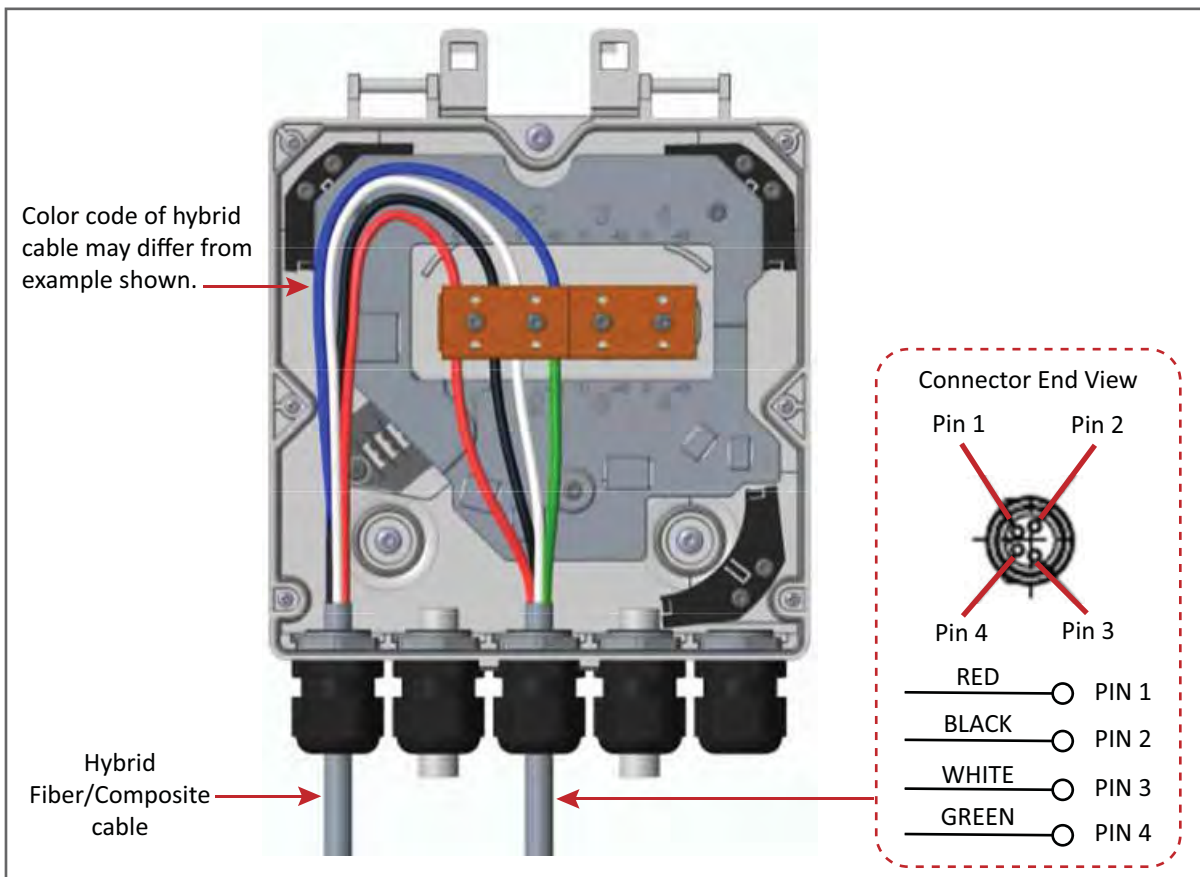

Figure 19. Wiring a Hybrid Fiber Splice Box for 4-Wire Power with LPS
- 1 Refer to Table 10 and Figure 19 to wire a Hybrid Fiber Splice Box for 4-Wire power with Limited Power Source (LPS).